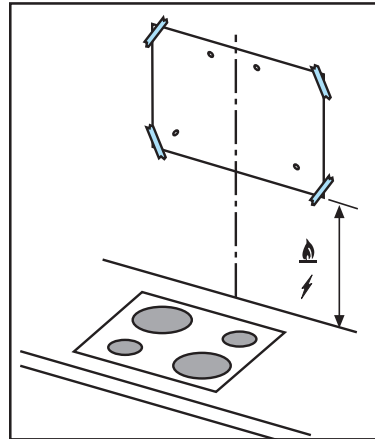

Fig. 8
- Apply the perforation diagram to the wall: the vertical centre line printed on the perforation diagram should correspond to the centre line drawn on the wall. In addition, the lower edge of the perforation diagram corresponds to the lower edge of the hood. **Fig. 8**